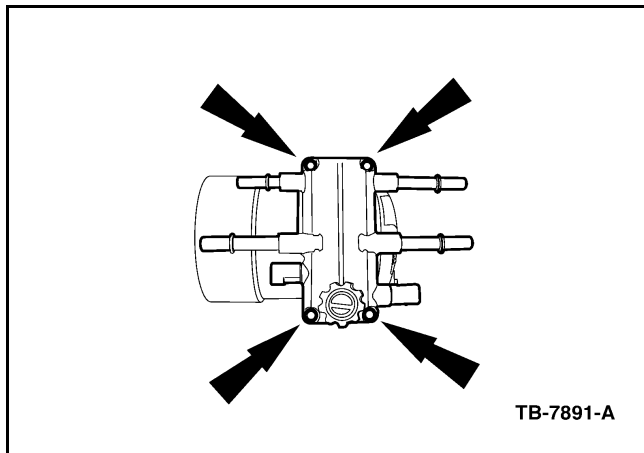

Figure 4 - Article 04-9-2
6. Remove the screws and the old fuel manifold cover (Figure 4).